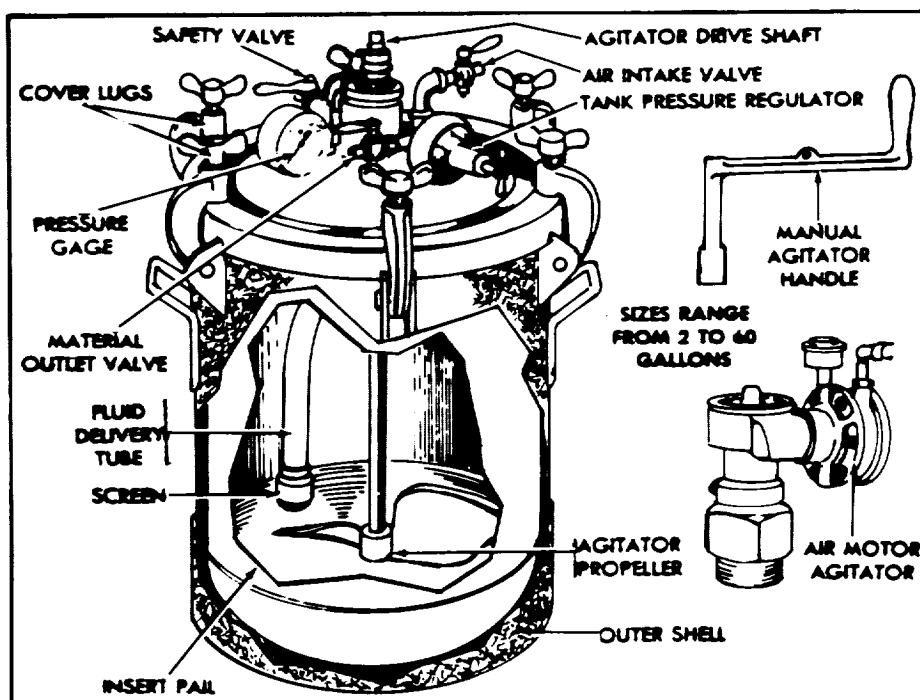

Figure 5-11. Pressure-Feed Paint Tank
*c. Pressure Feed Type.* Shut off the air supply to the pressure tank (see figure 5-11), release pressure in the tank, and blow back fluid as in the suction cup equipment (paragraph 5-6b above). Empty and clean the pressure tank. Place a container of clean naphtha or thinner inside the pressure tank and install the lid, making sure that the fluid delivery tubes (see figure 5-11) are immersed in the container of naphtha or thinner. Apply pressure and operate the spray gun to clean the hose and spray equipment. Disconnect the fluid hose from the gun and pressure tank and allow the hose to dry thoroughly before reconnecting. Clean the air cap and fluid tip as in the suction-cup equipment (paragraph 5-6b above).